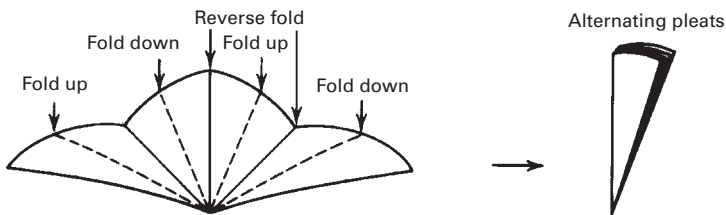

FIGURE 13.11 Refolding to a fan.
3. OK. Now try a “fan fold.” You alternately fold, first in one direction and then the other, every individual eighth section of the semicircle (Fig. 13.11).